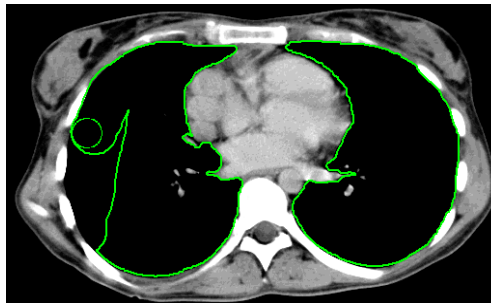

Figure 264 – Adding an area to a contour using the Brush drawing tool
4. To add/remove a contour, press and hold down the left mouse button and move the brush cursor to create the desired shape (see Figure 264).